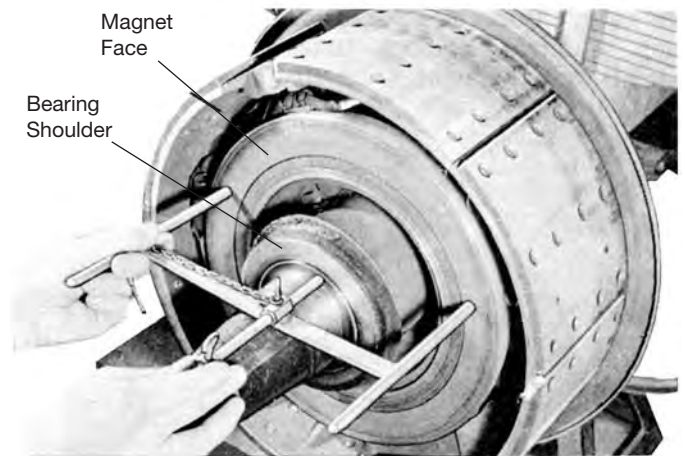

Figure 2-13
Step 1 To determine the amount of depression, place the outside legs of the gauge against the magnet facing with both thumb screws loose and with collar on middle leg on the outside of gauge crossbar (Figure 2-13). Push the middle, movable leg into contact with the bearing shoulder. Make certain that the gauge is held perpendicular to the magnet and that the magnet is flush against the brake spider.